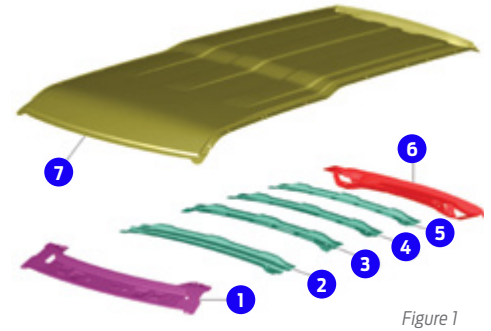

Figure 1
Roof (Figure 1)
3. With the help of an assistant, place the new pickup bed floor panel on a stable base and on both sides, install and properly position and clamp the inner wheelhouse, using locking pliers. With a 6.5 mm drill bit, drill guide holes on both sides, then install the blind rivets (W707638-S900C) using a rivet gun. (Figure 1)